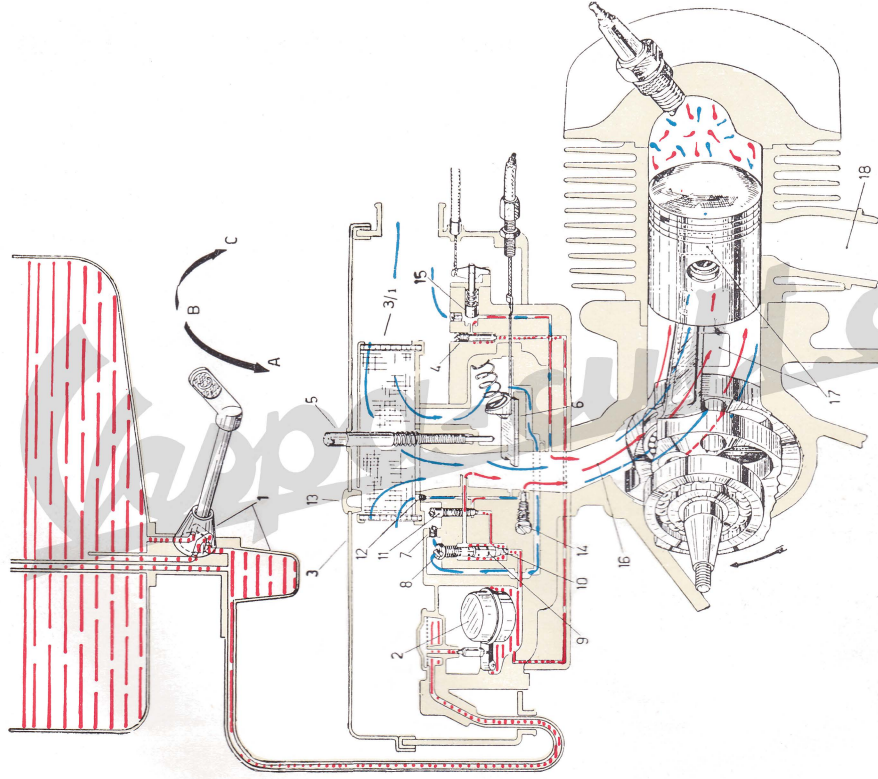

Fig. 9 - Fuel supply and distribution diagram
For adjusting the idling turn the slow running adjuster screw (fig. 9, n. 5).
- On the air cleaner case, opposite to said screw, is a plugged hole. When this plug is removed the spring loaded idler adjusting screw is accessible (Fig. 9, n. 14).
- 2) - With the engine stationary and throttle fully opened, introduce 40 cc. of **OIL SAE 30** through the appropriate hole on the air cleaner case (n. 13, fig. 9). After said operation depress the kickstarter three or four times.